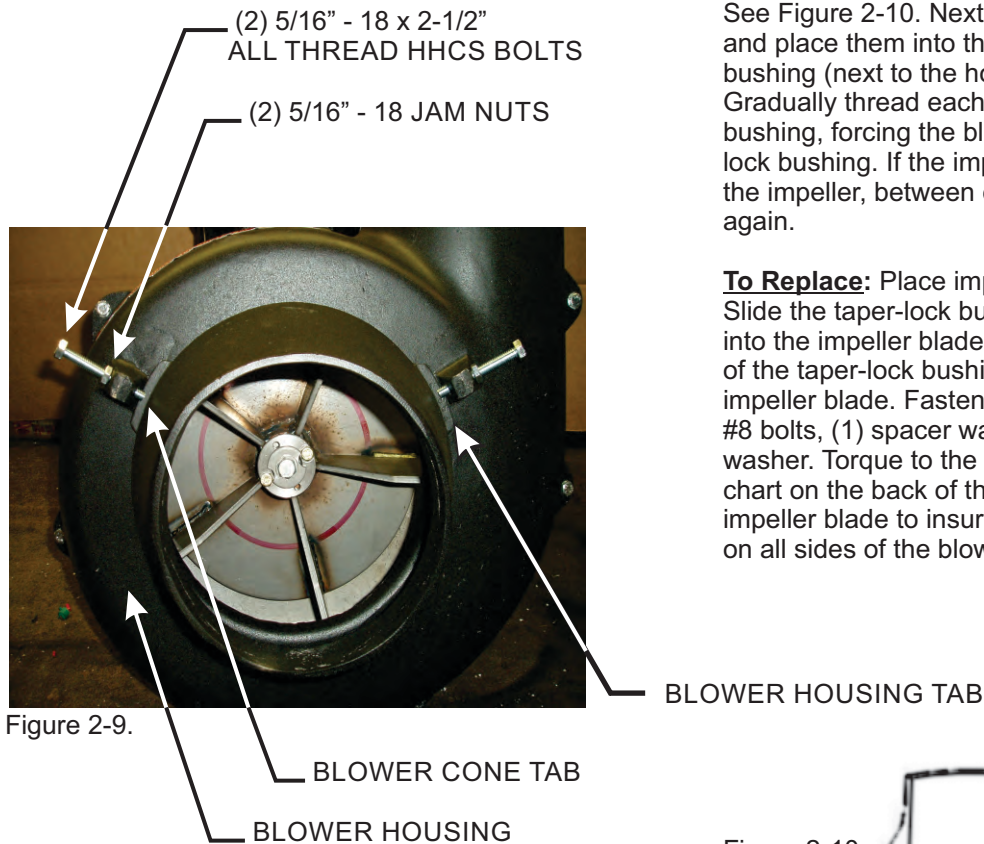

Figure 2-9.
Thread (1) 5/16"-18 jam nut P#(K0120) onto each end of (2) 5/16"-18 x 2-1/2" HHCS P#(K0125). Now partially thread the bolts into each of the two tabs located on the blower housing. Place blower cone so the two tabs line up with the bolts then tighten completely. See Figure 2-9.